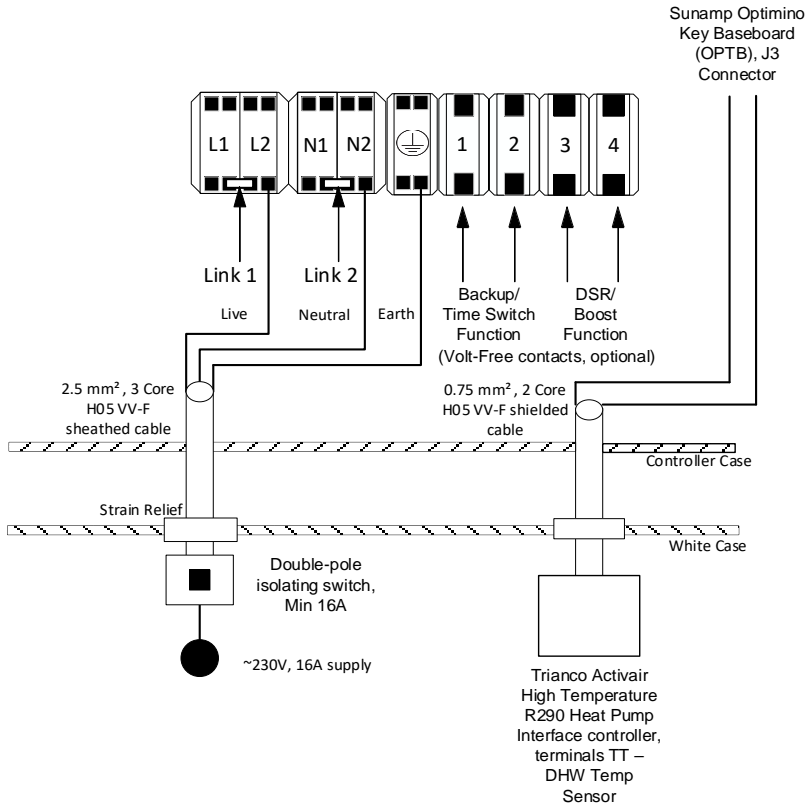

Figure TO.1 - Thermino xPlus with TO01 Optimino key
- Thermino xPlus with the “TO01” & “TO02” Optimino keys (D0084 – Section 6.4.2 for wiring instructions & Figures TO.1 & TO.2 below)
J3 on the Optimino Board J3; please see Figures TO.1 & TO.2 below for reference.